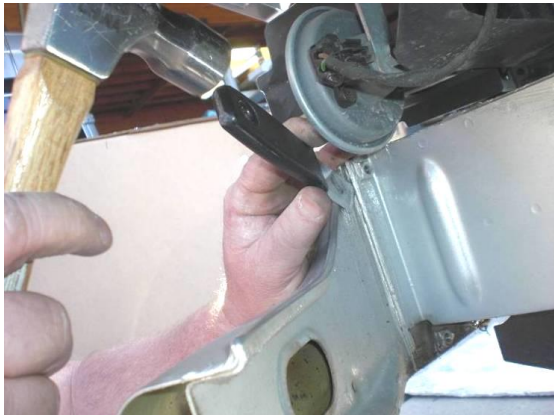

Figure 13: Releasing the Stock Steel Bumper from the Vehicle Using a Putty Knife and Hammer
15. Remove the stock steel bumper using a putty knife and a hammer if the bumper does not come loose after removing the bolts in the previous step. The frame sealant may cause the steel bumper to stick to the frame. See Figure 13. **CAUTION:** once the seal is broken, the bumper may fall if not properly supported.